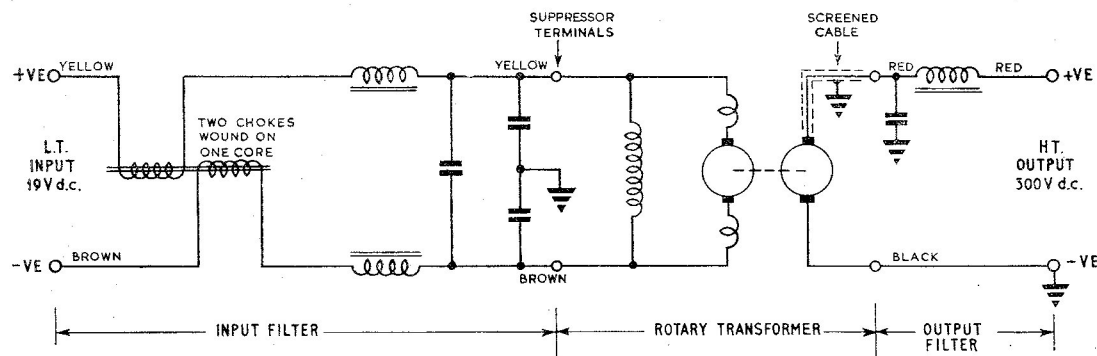

Fig. 1. Circuit diagram of rotary transformer with suppressor unit
4. This is a compound wound, long shunt connected machine, with two turns of series field winding on each pole. The input and output armature windings are wound on the same shaft (fig. 1).